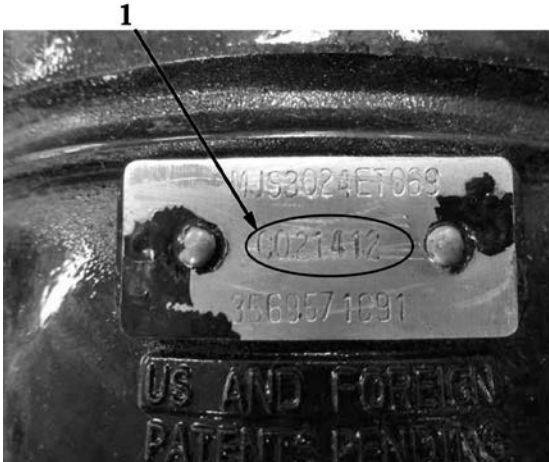

Figure 1. Spring Brake Label
5. Inspect the build date code on both spring brake chambers (Figure 1). If the date codes on the spring brake chambers are 11/03/2010 through 04/01/2012, proceed with Step 6 for each chamber to be replaced. If the date codes on the spring brake chambers fall outside these dates, no further action is required. Proceed to Step 26.